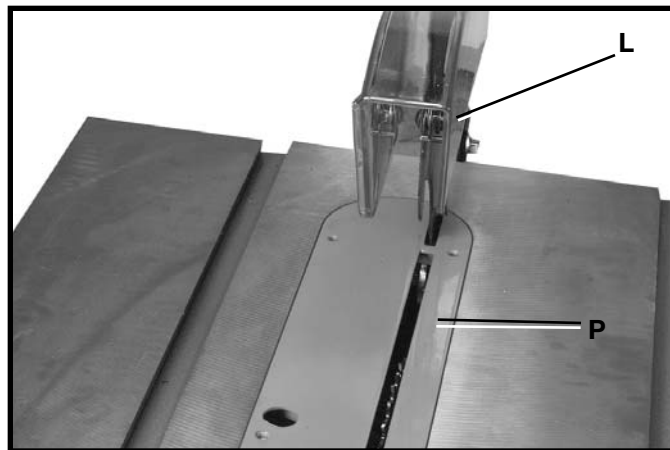

Fig. 36
11. Lower saw blade and install table insert (P) Fig. 36, in the saw table as shown. **IMPORTANT:** When installing the table insert, always make certain to hold on to the blade guard (L). The insert will automatically release the holding action on the splitter and lower the blade guard when it is installed in the table opening.